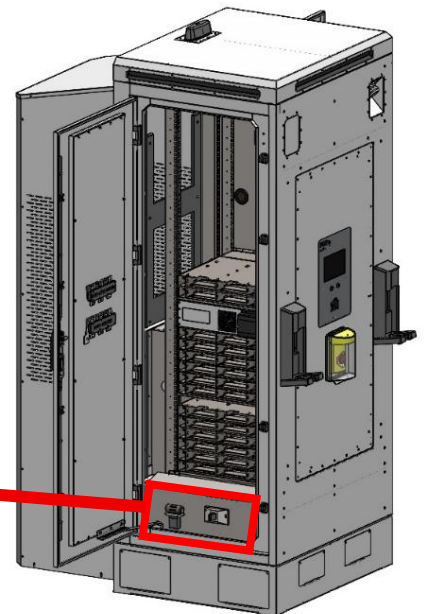
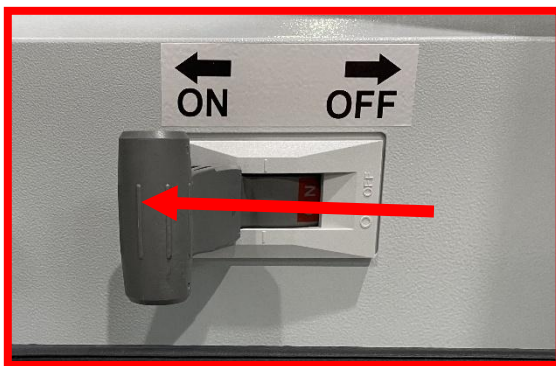
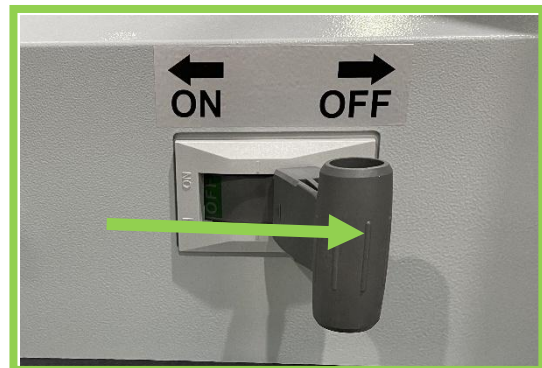

Figure 21 –Main Switch and its removeable handle shown in a fully loaded 60kW Bi-Directional Charger
Figure 22 - Main Switch (shown with handle on) in the ON position
Figure 23 - Main Switch (shown with handle on) in the OFF position
3. Locate charger's main switch with its handle in its hanger below the empty shelves (Figure 21) and determine if the main switch is in the ON position (Figure 22) or the OFF position (Figure 23).
4. Ensure Main Switch is in the OFF position (Figure 23) before proceeding with installation.
If main switch is in the ON position (Figure 22):